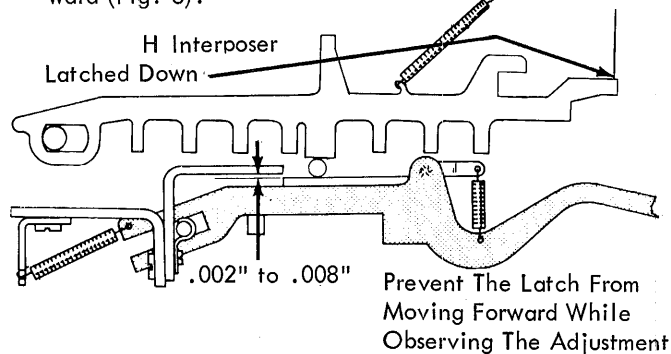

FIGURE 8. Cycle Clutch Release Point Adjustment
7. Cycle Clutch Release Point - Adjust the cycle clutch keeper vertically for .002" to .008" clearance between the pawl and the keeper with the H interposer latched down. The clearance must be observed at the point of unlatching because it increases as the latch moves forward (Fig. 8).